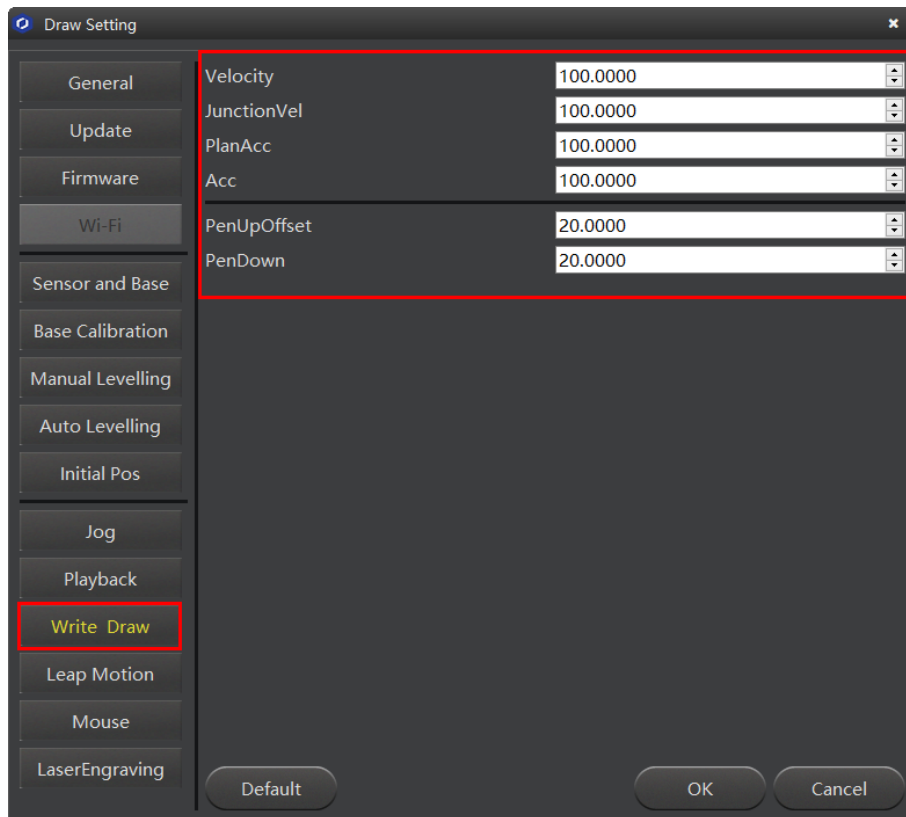

Figure 5.53 Setting the parameters of the Write & Draw function
2. Click **Write & Draw** to set the Dobot Magician's **Velocity** (mm/s), junction velocity (**JunctionVel**: mm/s), **PlanAcc** (mm/s²), acceleration (**Acc**: mm/s²), **PenUpOffset** (mm), **PenDown** (mm), as shown in Figure 5.53.